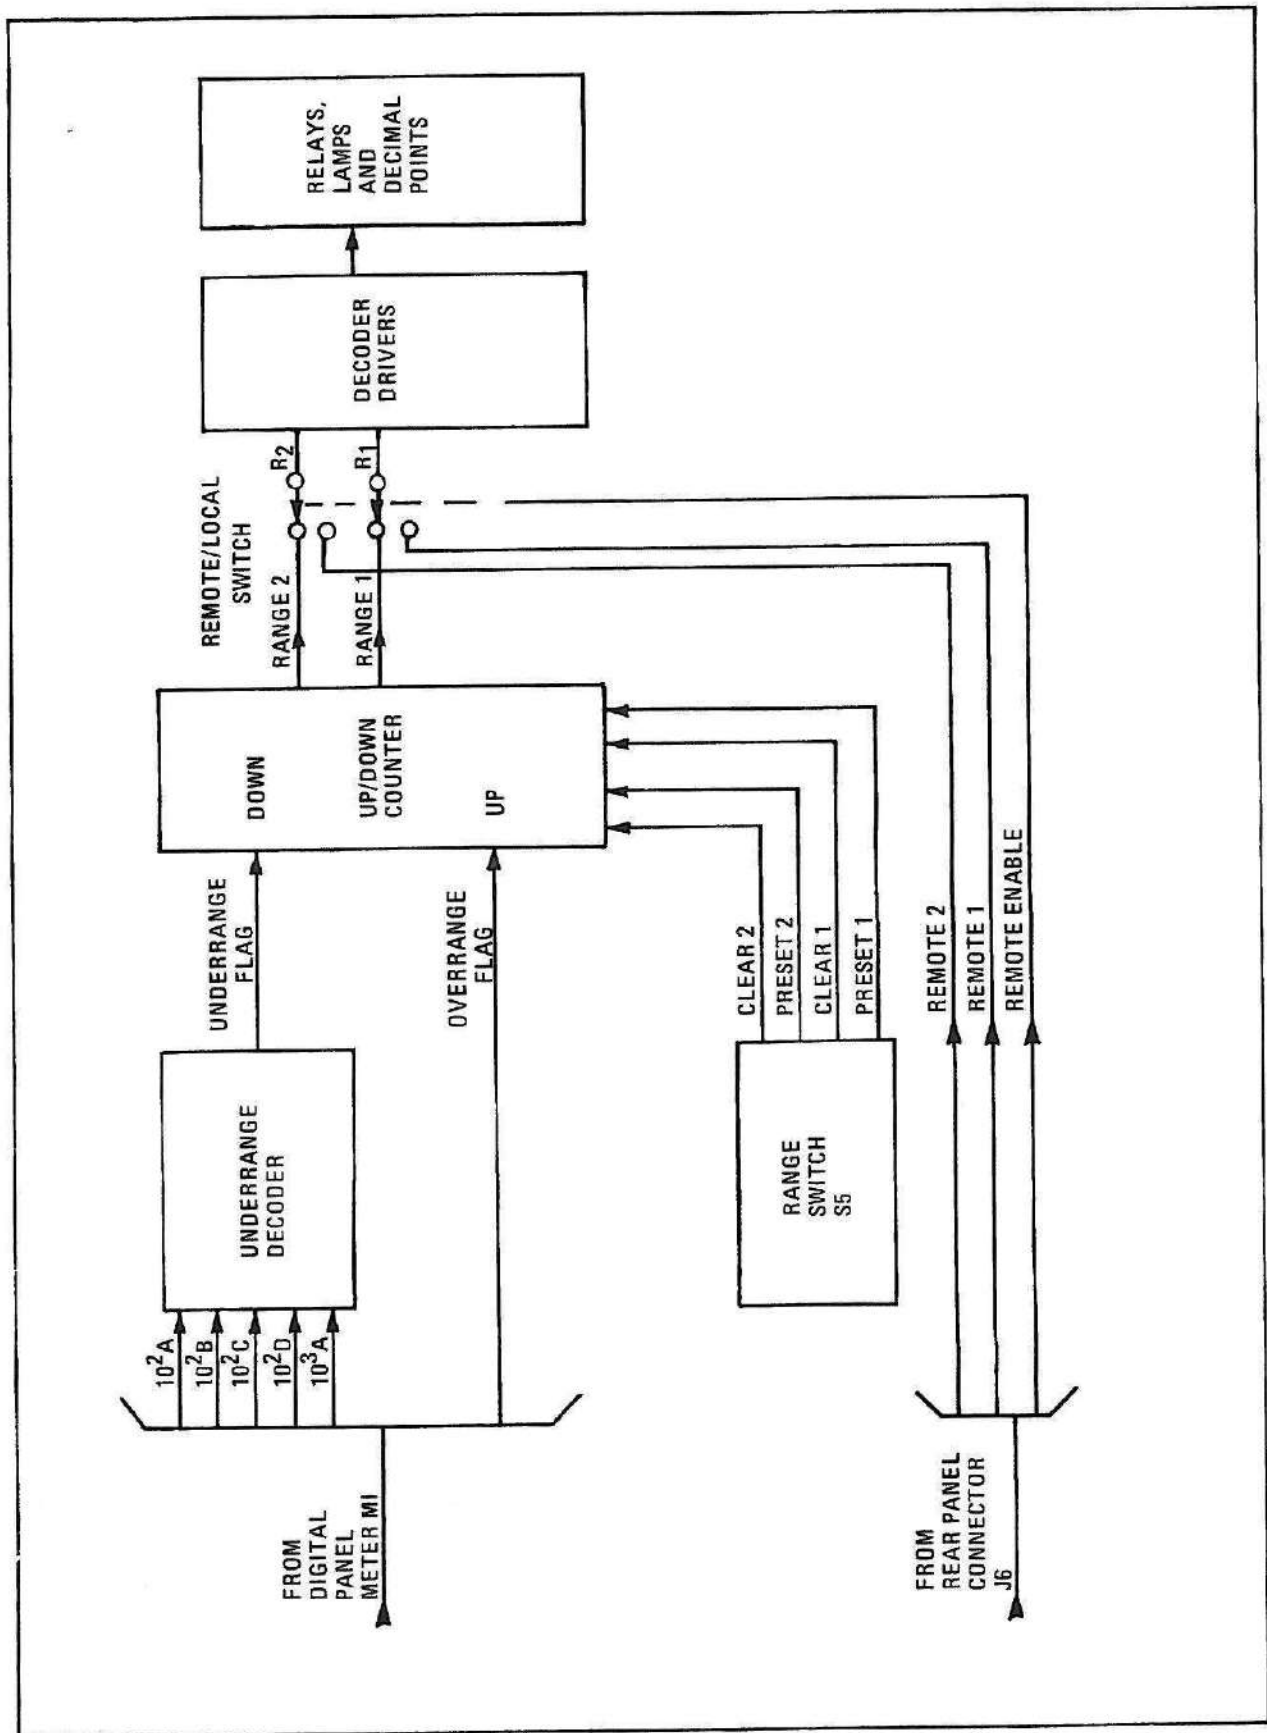

Figure 2. Auto Range Assembly A6 Block Diagram
**37. Introduction** (see Figure 2). Auto Range Assembly A6 comprises the logic circuitry and relays that set the power meter to its four basic ranges. The main control element is the up/down counter. The counter generates a range code that consists of four binary counts, or states. The range code corresponds to the meter's four ranges: